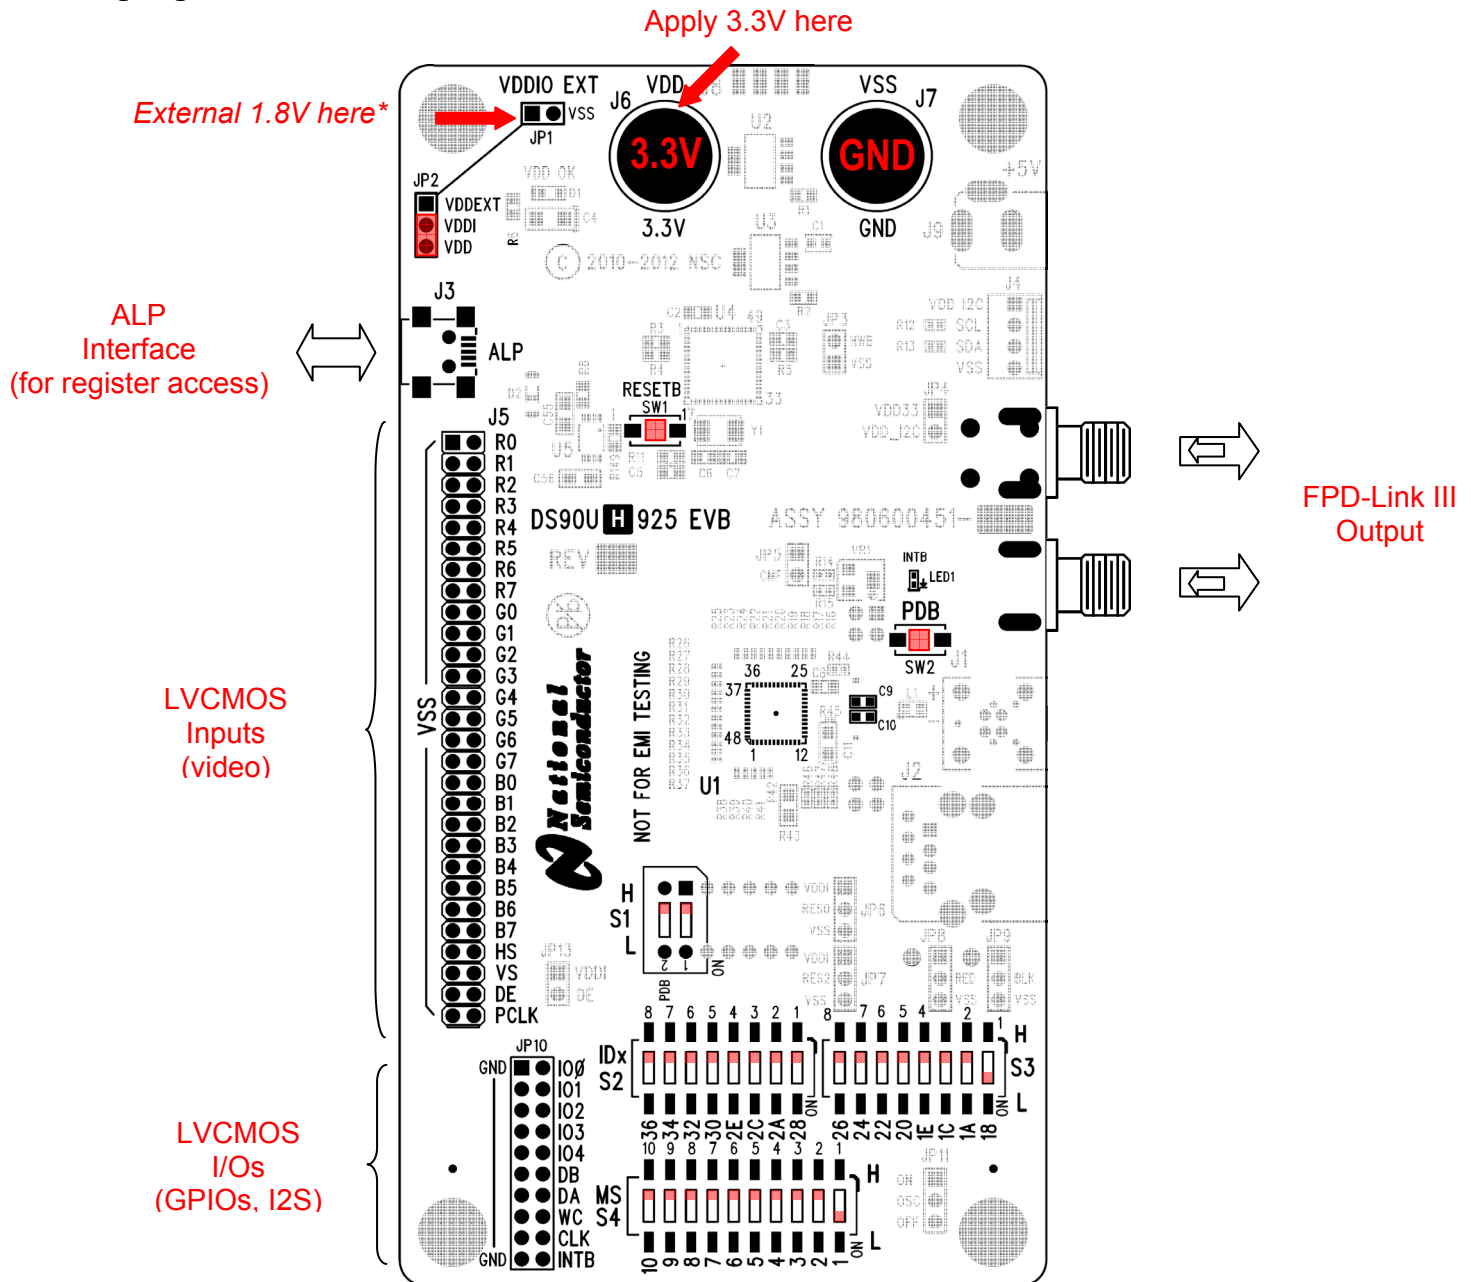

Figure 1: DS90UH925Q EVB
Make sure S1, S2, S3, S4, and JP2 are configured as shown in Figure 1.
- 5) Go back to figure 1 and double check factory settings.